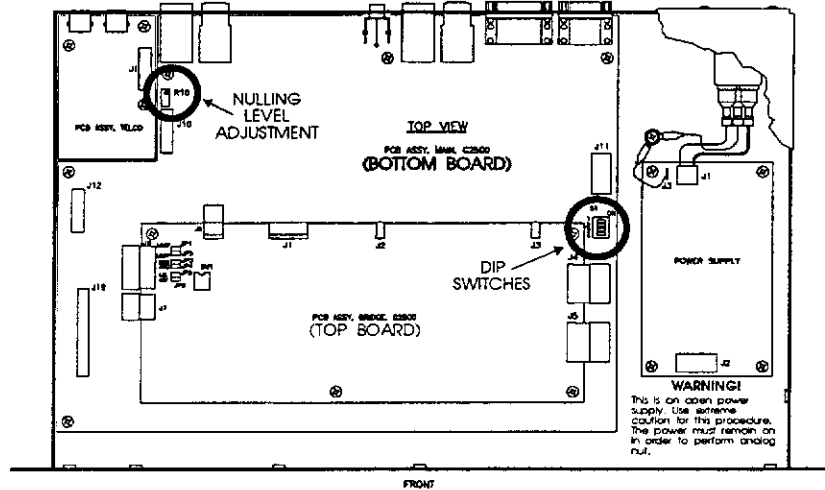

Figure 14
- Adjust trim pot R10 (locate on the drawing in Figure 14) for a minimum level from the CALLER output.